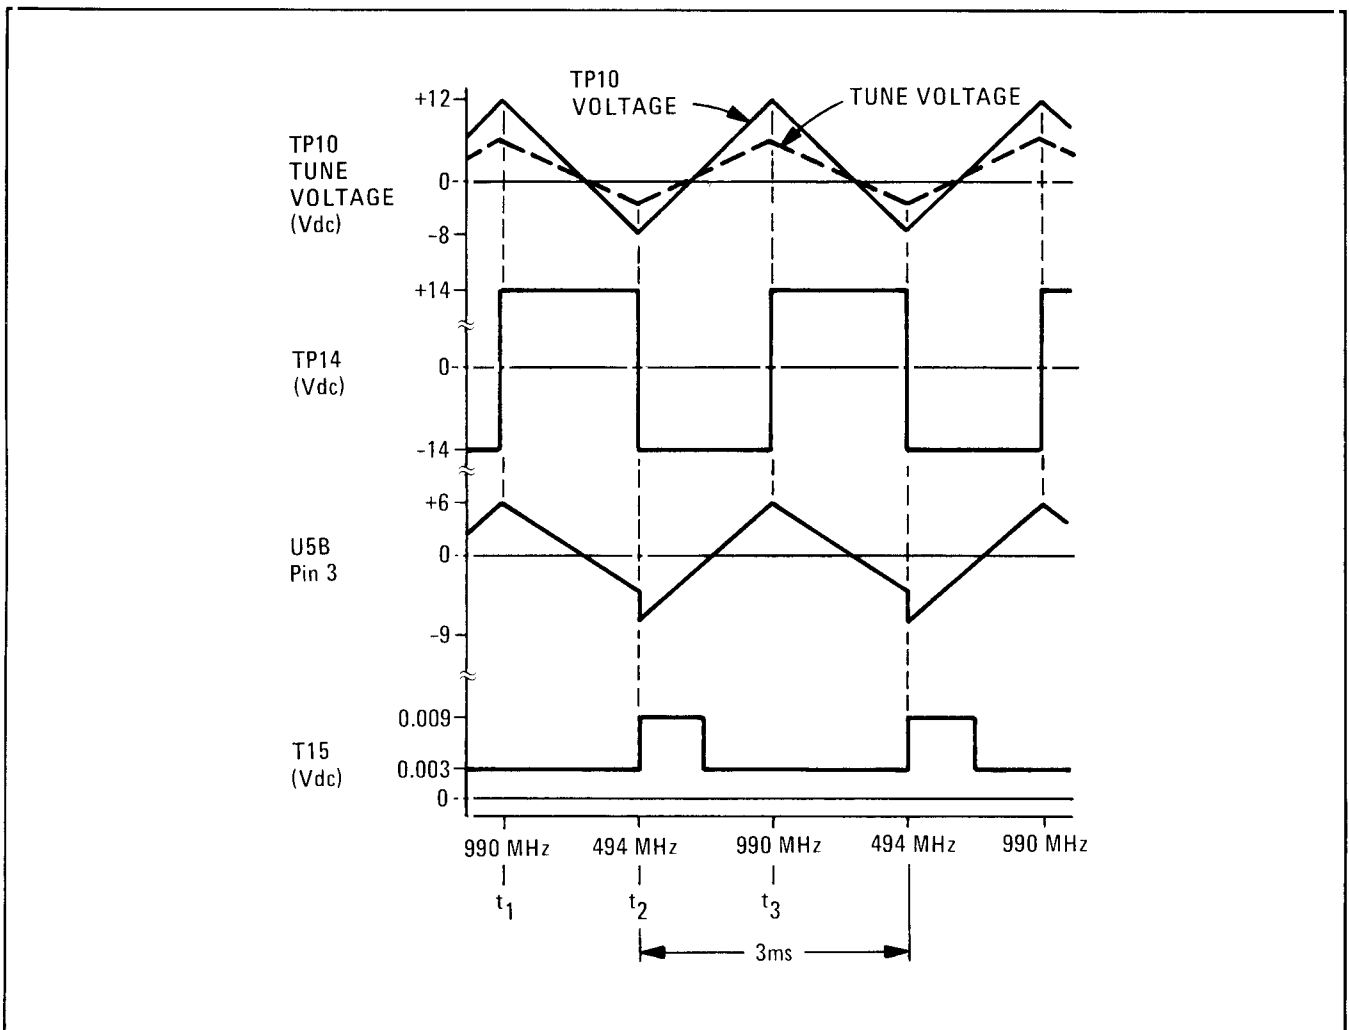

Figure 1. Unlocked High Frequency Loop Waveforms
Refer to the waveforms in Figure 1. The loop is unlocked and the positive input to U5B is more positive than -3.75 Vdc. The output of U5B is switched to +12 Vdc. The VCO is swept across its frequency range (990 to 494 MHz). At time T1 the comparator U5B has just changed state. CR16 is biased on and CR17 is biased off. At time T2 the positive input to U5B becomes more negative than the negative input and the output switches to -14V, CR16 is biased off, CR17 is on and the positive input to U5B is pulled to -8.7V. During this time the instrument would normally have locked. At time T3 the positive input to U5B becomes more positive than the negative input and the output changes to +14V, CR16 is biased on, CR17 is biased off and the positive input of U5B is pulled to +6 volts. This cycle is repeated until a locked voltage is received from the sampler.
3. Verify that the waveforms of Figure 1 are correct.